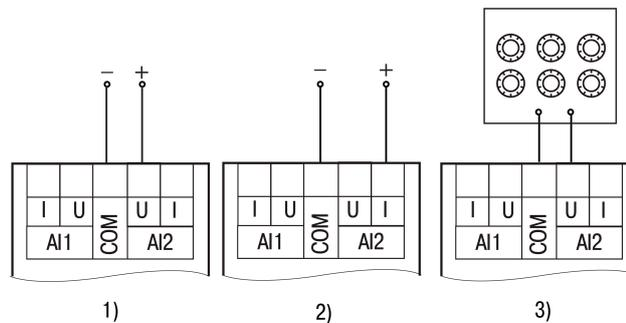

Fig. 7.1 Connection of the reference signal source to an input
1. Connect the reference signal source to the input (Fig. 7.1).